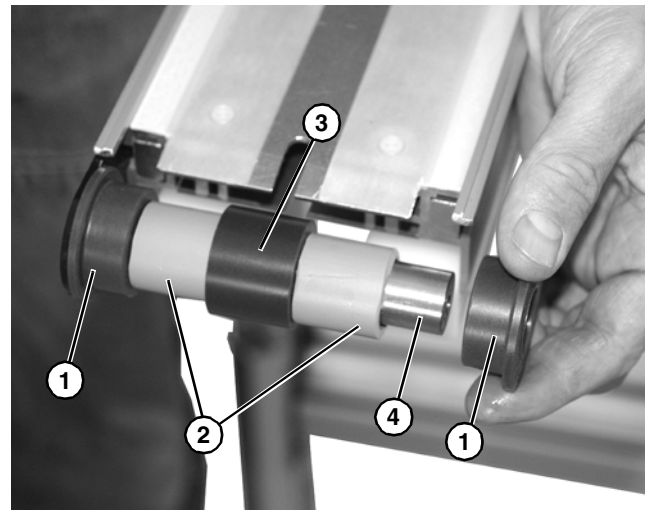

Figure 48
4. Slide tracking sleeves (**Figure 48, item 1**), spacers (**Figure 48, item 2**), and idler sleeves (**Figure 48, item 3**) off the end of pulley (**Figure 48, item 4**).